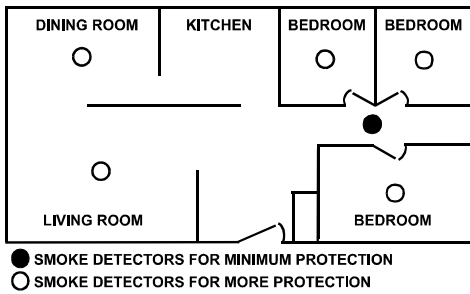
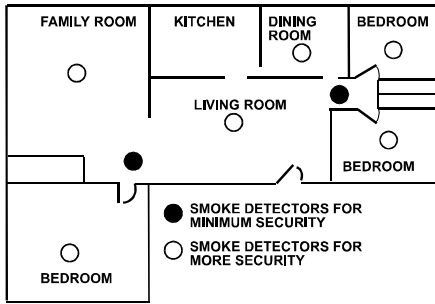

Figure 5. Locations for Placing Smoke Detectors in a Single Residence with only One Sleeping Area
Figure 6. Locations for Placing Smoke Detectors in Single-Floor Residence with More than One Sleeping Area.
- Install a smoke detector in the hallway outside every separate bedroom area, as in Figure 5. Two detectors are required in homes with two bedroom areas, as in Figure 6.